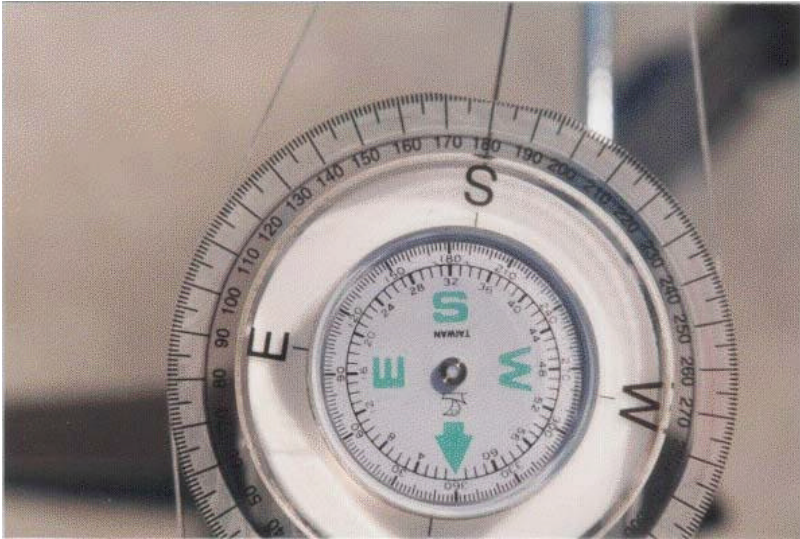

Fig. 8
- (9) Now rotate azimuth pointer to align with azimuth dial at the 180 degree mark. This becomes your azimuth starting point for the satellite position you want to locate (see Fig. 8)